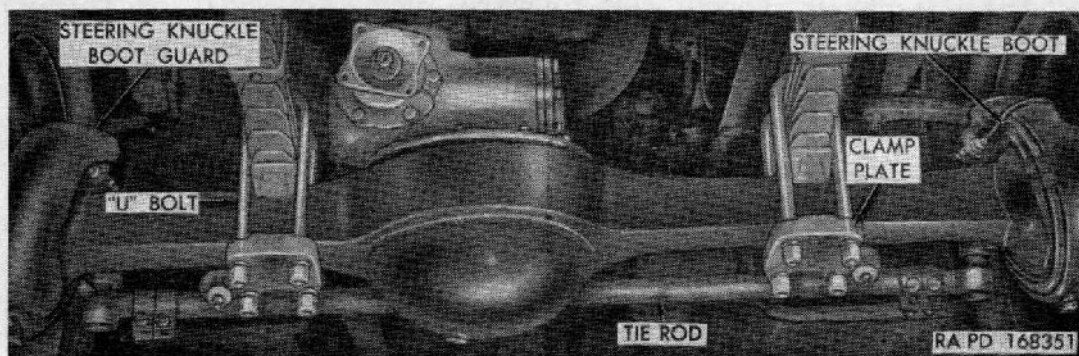
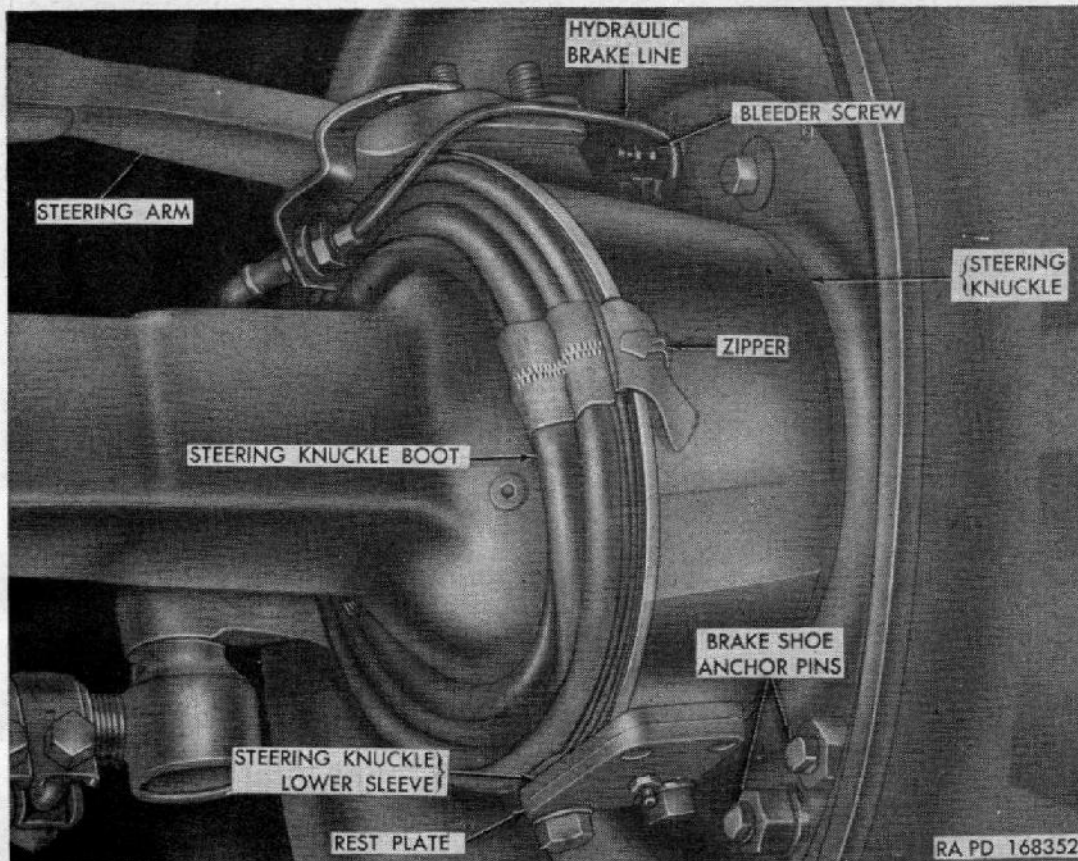

Figure 94. Front axle installation.
Figure 96. Steering knuckle boot.
(fig. 94)
- (1) *Remove hub and drum assembly.* Refer to paragraph 185.
- (2) *Remove steering spindle assembly.* Remove 12 nuts and lock washers from studs in steering-knuckle outer flange and remove brake-drum oil slinger. Remove brake-flange plate assembly, and support so as to eliminate disconnecting brake line. Slide steering spindle assembly from end of axle shaft.
- (3) *Remove axle-shaft and universal-joint assembly.* Withdraw axle-shaft and universal-joint assembly from steering knuckle and axle housing by pulling straight out.
- (4) *Remove steering arm assembly.* Remove two nuts and lock washers holding steering arm (fig. 114) and steering knuckle-boot guard (fig. 94) to steering knuckle (fig. 114). Remove two cap screws and lock washers holding boot guard to steering knuckle and remove boot guard. Remove other two nuts and lock washers holding steering arm to steering knuckle. Tap steering arm lightly with soft hammer to loosen four steering knuckle stud sleeves. Remove steering arm assembly and four sleeves.
Caution: Do not remove steering knuckle upper and lower sleeves (fig. 96) for any reason. These sleeves are not interchangeable.
- (1) *Install steering arm assembly* (fig. 114). Place steering arm assembly with four steering arm stud sleeves in position on steering-knuckle studs. Install two rear nuts and lock washers. Position steering knuckle-boot guard (fig. 94) over studs at top and align holes at bottom. Install cap screws and lock washers at bottom and nuts and lock washers at top and tighten.
- (2) *Install axle-shaft and universal-joint assembly.* Using care not to damage oil seal in housing outer end, insert axle-shaft and universal-joint assembly into axle housing, guiding splined end of inner shaft into splined differential-side gear.
- (3) *Install steering spindle assembly.* Position steering spindle assembly on steering-knuckle studs. Milled slot in threaded end of spindle must be at top. Place brake-flange plate assembly, and brake-drum oil slinger on steering-knuckle studs, and install 12 nuts and lock washers.
- (4) *Install hub and drum assembly.* Install hub and drum assembly wheel bearing and adjust wheel bearings (par. 185).
- (5) *Lubricate.* Lubricate steering knuckle and universal joint (par. 56).
d. **STEERING-KNUCKLE BOOT REPLACEMENT** (fig. 96).
- (1) *Removal.* Remove four cap screws securing steering knuckle boot guard (fig. 94), and remove guard. Cut boot from axle. Loosen outer, and inner clamp rings, and detach remainder of boot.
- (2) *Installation.*
- (g) Position steering knuckle boot guard (fig. 94) and secure with four cap screws and lock washers.